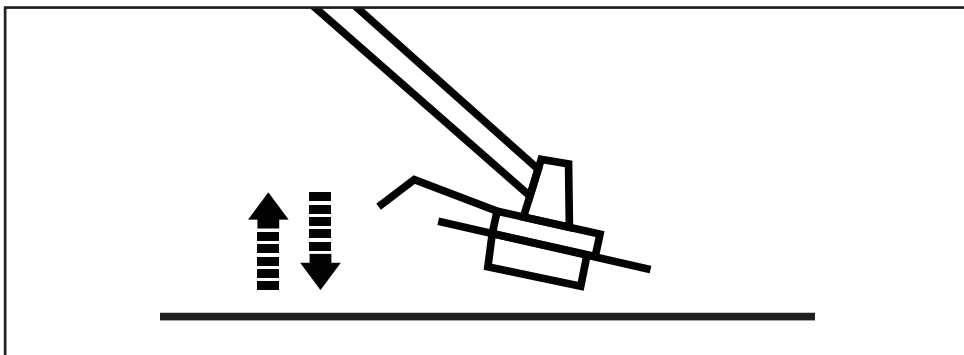

Fig. 10
- A cutting line cutter (B12) is integrated with the trimming guard (B13) and it cuts the line to a preset length (Fig. 10).